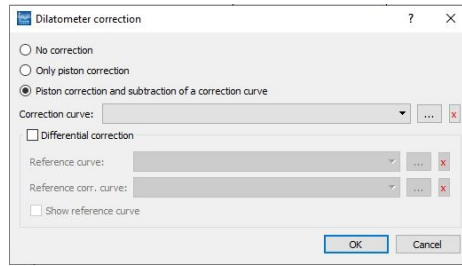

Figure 42. Loading correction curve.
- To load the mean correction curve, select the ... in Figure 42.
- The mean correction curve is populated in the correction curve drop-down box in figure 42.